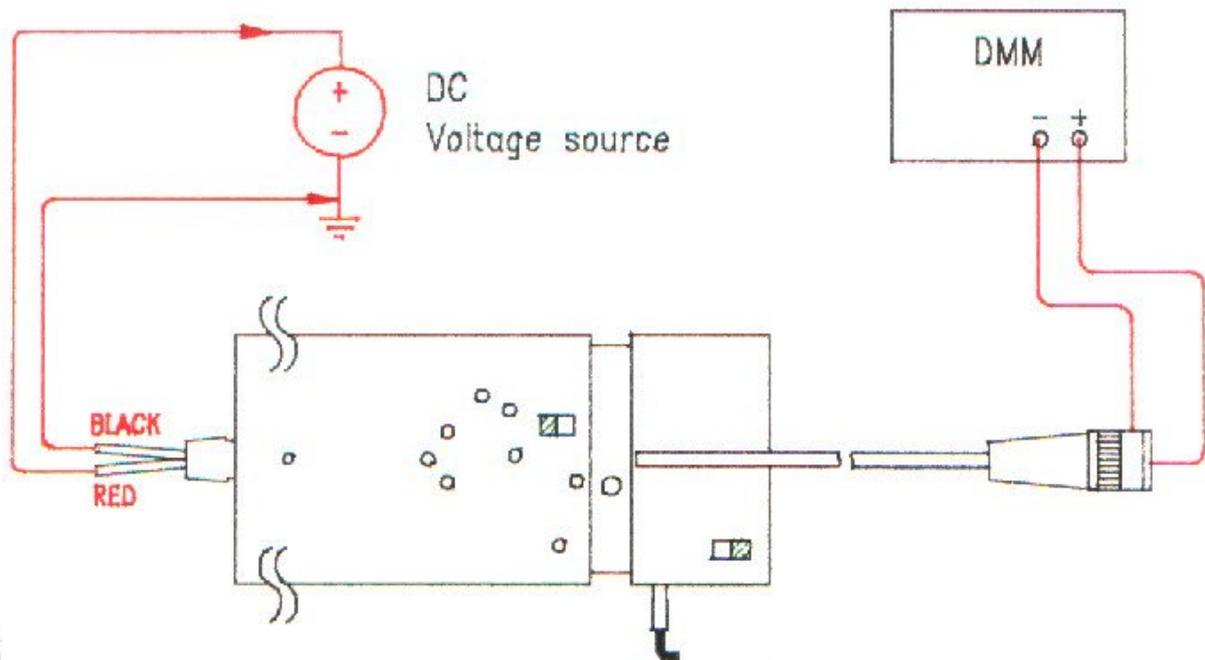

Fig. 11
- Referring to Fig. 11, connect output BNC to a DMM.